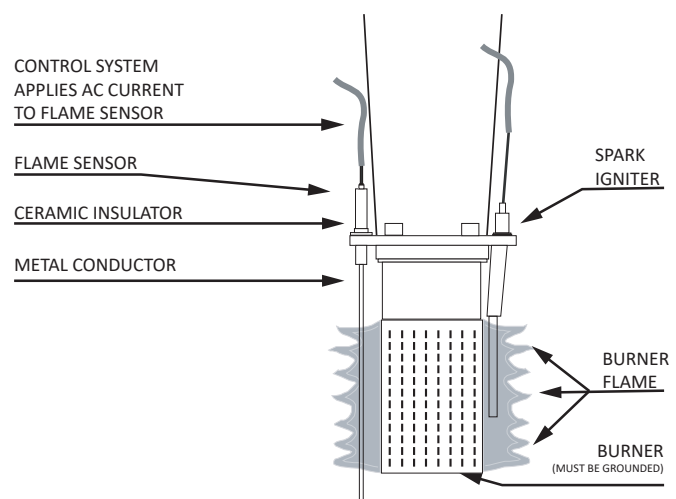

Figure 14. Flame Sensor and Burner
- Remove the connector from flame sense rod. See the Flame Sensor in **Figure 14**.